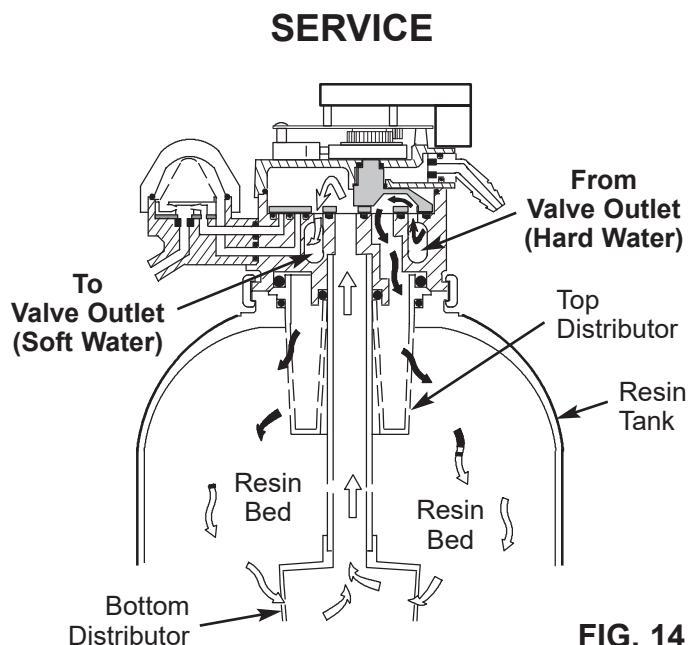

FIG. 14
**SERVICE (Figure 14):** Hard water enters the unit, passes through the valve, and flows down into the resin tank and resin bed. As it passes through the bed, hardness minerals are extracted from the water and held by the resin beads. Conditioned water exits the resin tank through the bottom distributor, flows up the internal standpipe, into the valve, then out to faucets or other points of usage.